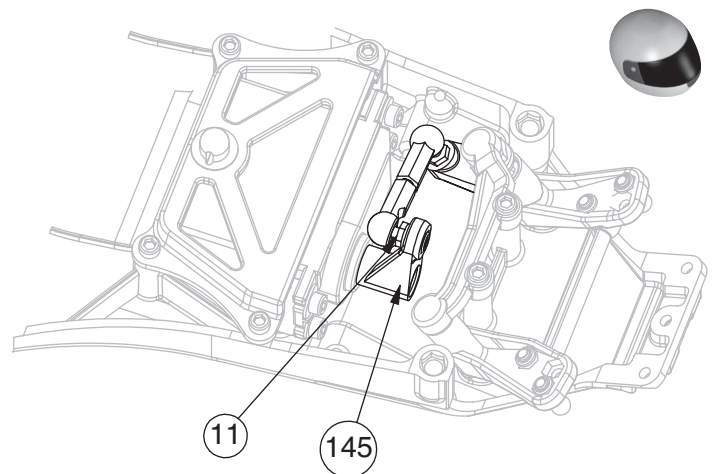

Figure 59
1. Attach one end of the Servo Link to the Ball Stud (11) in the Servo Arm (145) and the other to the Ball Stud in the Servo Saver as shown in Figure 59.